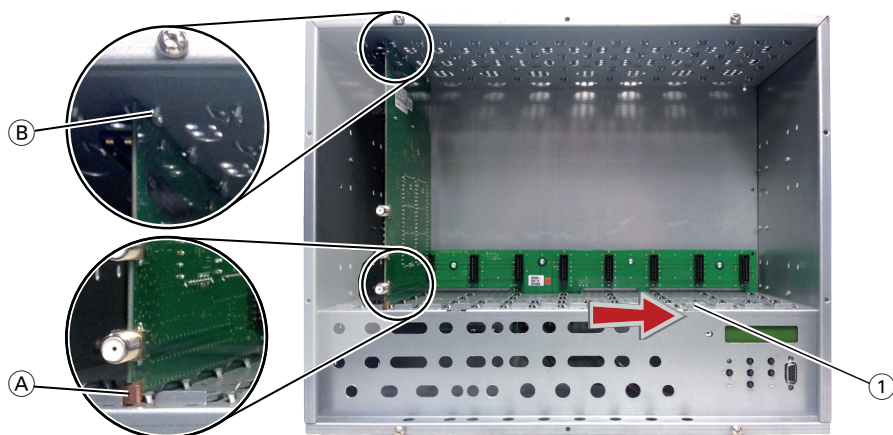

Fig. 3
- Insert the QAM module in grooves (A) and (B) of an open slot (with contact strip on the board at the rear wall of the housing) and gently slide it into the head-end station until it makes contact with the board on the rear wall (fig. 3).
- After installing the QAM module close the locking device ① in the direction of the arrow (fig. 3).